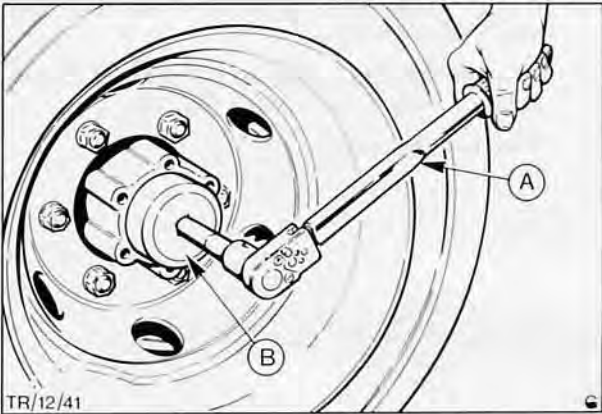

Fig. 22. Tighten nuts with special tool
17. Fit wheel hubs, torquing nuts as specified with Special Tool No. 15-029 for 'F' and 'H' axles, and tool 15-028 (67 mm) or 15-062 (65 mm) for the 'G' axle, Fig. 22.